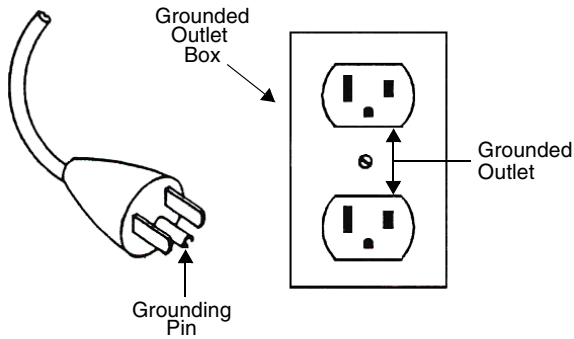

Figure 4 Grounding Plug and Outlet
- ☐ *When this product is configured for use on a nominal 120 V circuit, it must be used with a grounding plug that looks like the plug illustrated in Figure 4.*